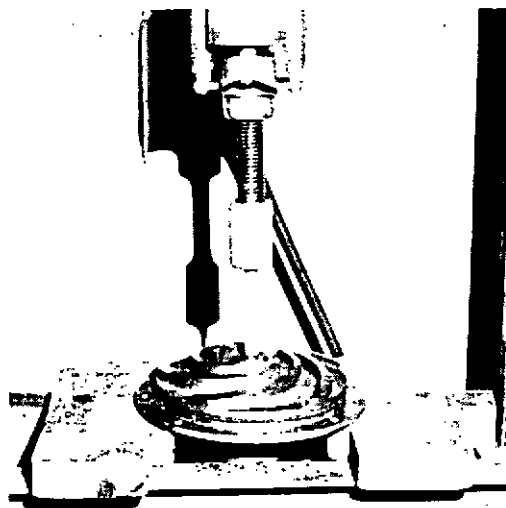

Figure 1. Impeller Removal
A. Remove screws (11) and washers (12) from housing flange.
B. Remove housing assembly (4) from body (2). Remove gasket (3) and discard.
D. Remove snap ring (10) from housing assembly (4).
**CAUTION:** Do not attempt to hammer or pry impeller (5) from impeller shaft (9). Damage to housing (8) can result.
E. Place housing assembly (4) in arbor press with impeller (5) facing up, refer to figure 1. Press impeller shaft (9) through impeller (5) and from housing (8).